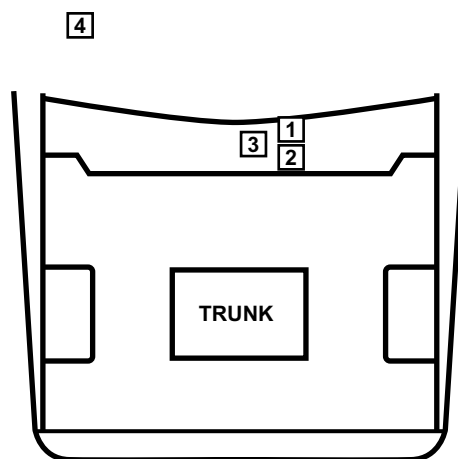

Figure 15-7 XT and XT6 common connector locations
- “XT and XT6 common connector locations” on page 169 (Table 15-7, Figure 15-7)